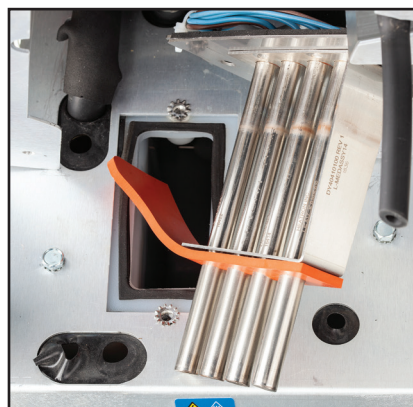

Fig 8-52 Install heater with flow deflector towards level sensor (step 5)
3. Remove the black foam covering the two (2) hex head screw securing the heater to the lower bracket. Then using a 7/16" (11mm) nut driver, remove the two (2) screws.
5. Install the new heater assembly into the tank by first directing the orange flow deflector towards the level sensor (see figure 8-52).